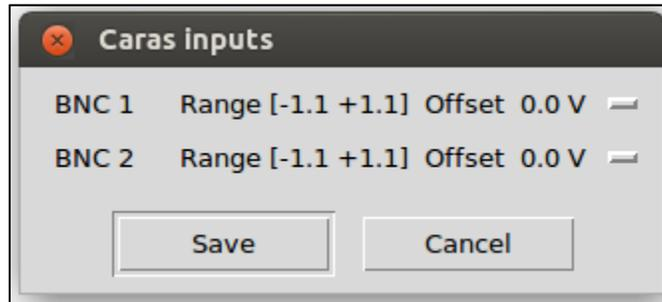

Figure 11: fullscale range interface for CARAS daughter board.
Each SMB channel can have a different dynamic input range from [0.0 +2.2] V to [-2.2 0.0] V. This dynamic range is configured by the user, by clicking on “Range” switch ②. A new interface is launched (cf. Figure 11): the user can add a voltage source (called “Offset”) between -1.1 V and 1.1 V with 0.1 V-step.